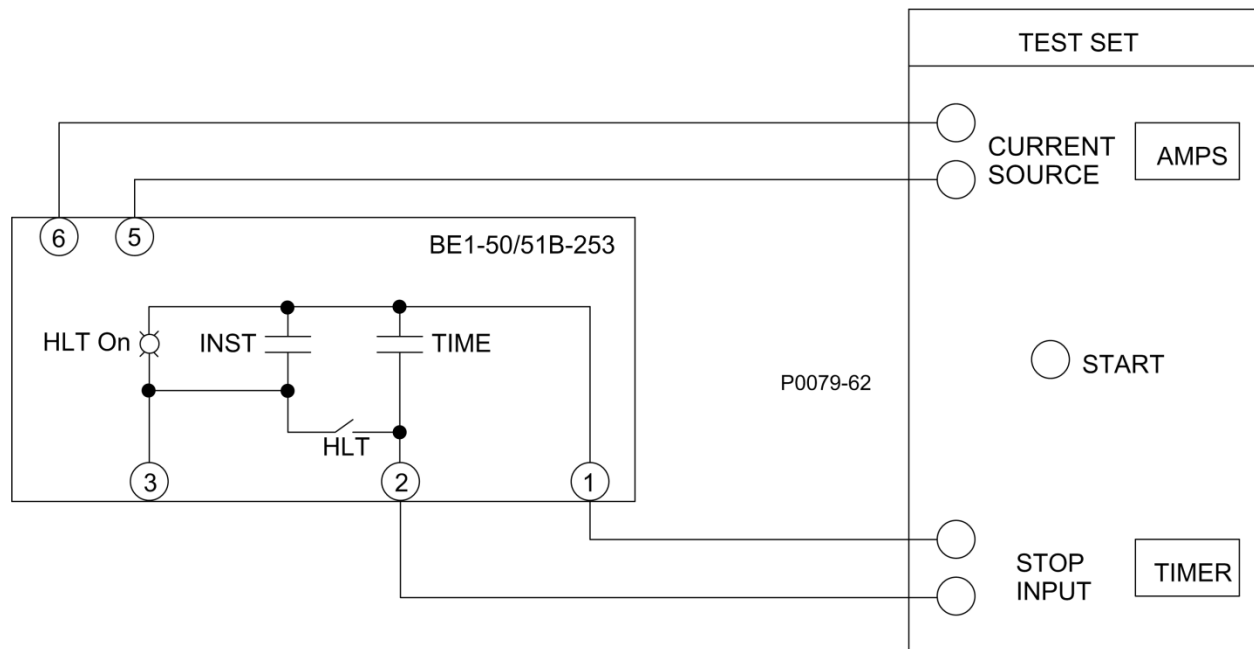
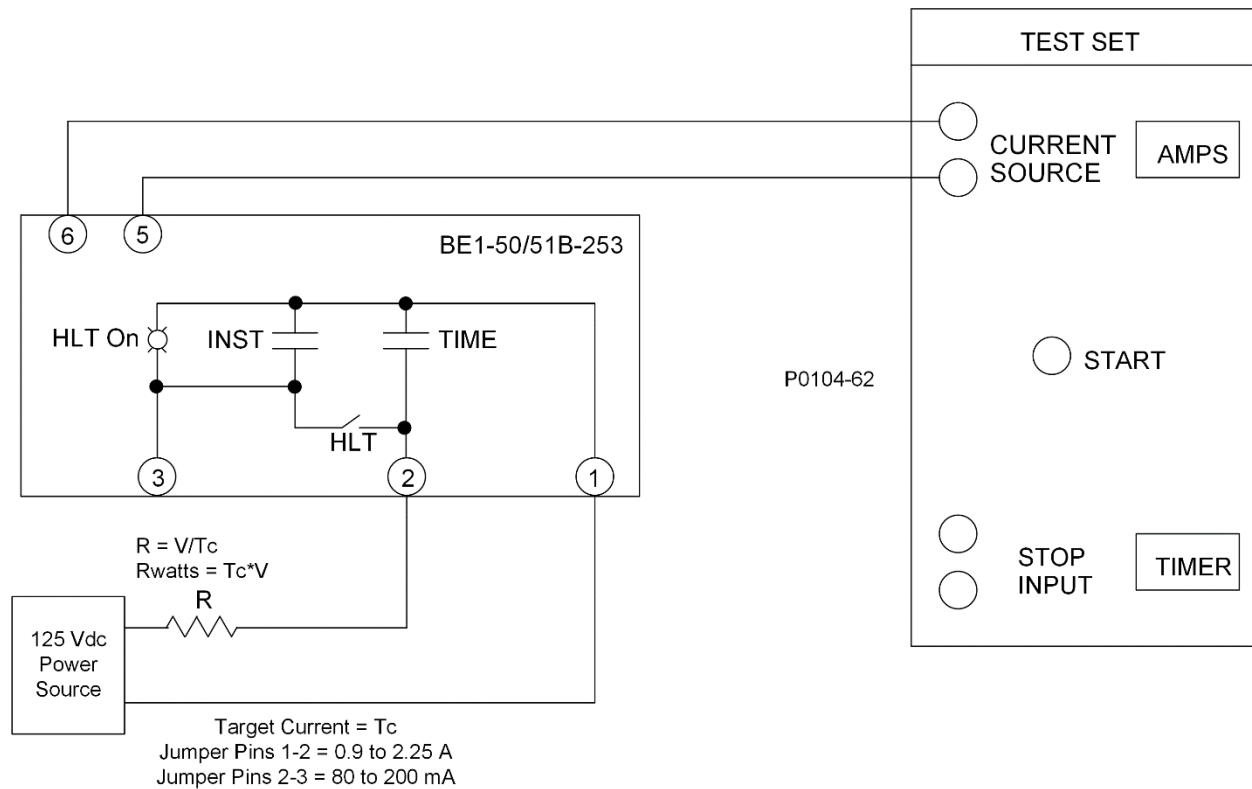

Figure 5-1. Pickup and Timing Test Setup
Figure 5-2. Target Operational Test Setup
The following procedures verify operation of the BE1-50/51B-253 relay. The test setups of Figure 5-1 and Figure 5-2 are intended primarily as an illustration of the principles involved. Other test setups known to be capable of testing with the stated and implied tolerances (including equipment specifically designed for testing relays) may be used.
- Connect test setup as shown in Figure 5-1.
- Connect test setup as shown in Figure 5-2.